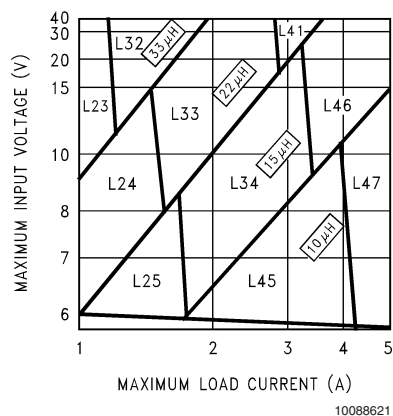
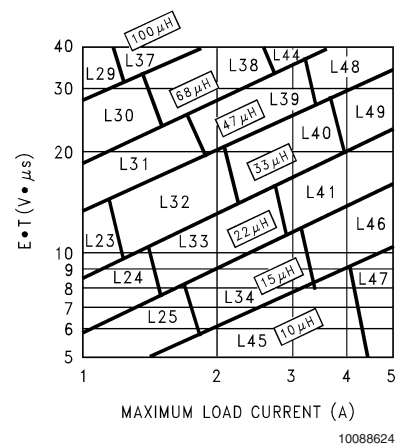

FIGURE 3. LM2678-3.3
FIGURE 6. LM2678-ADJ
Step 3: Determine the inductor required by using one of the four nomographs, *Figure 3* through *Figure 6*. Table 1 provides a specific manufacturer and part number for the inductor.
Step 5: Determine an input capacitor from Table 4 for fixed output voltage applications. Use Table 2 to find the specific capacitor type. For adjustable output circuits select a capacitor from Table 2 with a sufficient working voltage (WV) rating greater than $V_{in\ max}$, and an rms current rating greater than one-half the maximum load current (2 or more capacitors in parallel may be required).
Step 3: Use the nomograph for the 3.3V device, *Figure 3*. The intersection of the 16V horizontal line ($V_{in\ max}$) and the 4A vertical line ($I_{load\ max}$) indicates that L46, a 15 μ H inductor, is required.
Step 3: To use the nomograph for the adjustable device, *Figure 6*, requires a calculation of the inductor Volt•microsecond constant ($E \cdot T$ expressed in $V \cdot \mu s$) from the following formula:
Using *Figure 6*, the intersection of 27V•μS horizontally and the 3.5A vertical line ($I_{load} \text{ max}$) indicates that L48, a 47μH inductor, or L49, a 33μH inductor could be used. Either inductor will be suitable, but for this example selecting the larger inductance will result in lower ripple current.
Important Note: When using the adjustable device in low voltage applications (less than 3V output), if the nomograph, *Figure 6*, selects an inductance of 22μH or less, Table 6 does not provide an output capacitor solution. With these conditions the number of output capacitors required for stable operation becomes impractical. It is recommended to use either a 33μH or 47μH inductor and the output capacitors from Table 6.